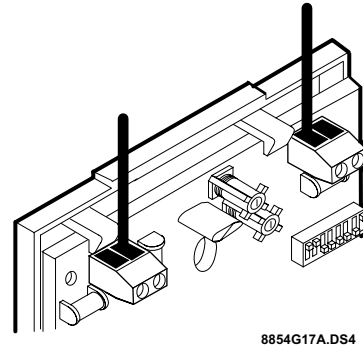

Figure 1. Connecting Repeater Antennas
- 4) Tighten down the terminal screws (see Figure 1).